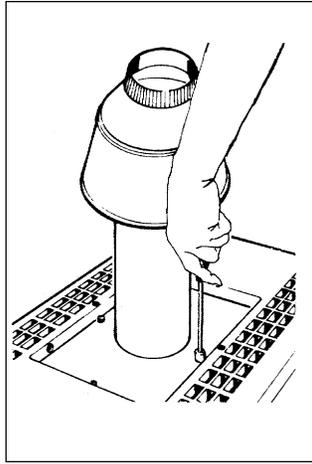

Figure 39. Fastening the Adapter Plate
11. Seat the adapter plate on the top assembly, and secure it with screws supplied in the kit (see Fig. 39).